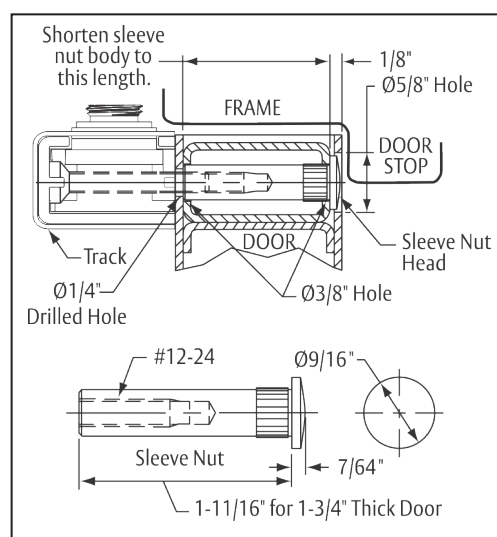

Figure 5
- c. For sleeve nuts and bolts, see illustration. (Figure 5)